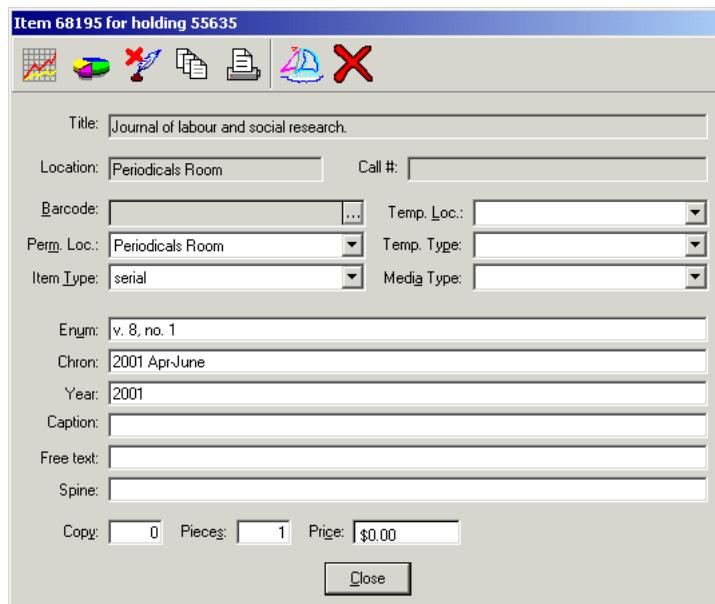

Figure 10-10. New Item Record dialog box
- If the **Create Items** check box is not selected on the **Item Creation** tab of your Session Workflows, an item record is not automatically created. However, after a line item copy has been received, you can select the copy from the hierarchy and click the **Item** button or press **Alt + I** on your keyboard to display the **New Item Record** dialog box (Figure 10-10) and to create an item record.